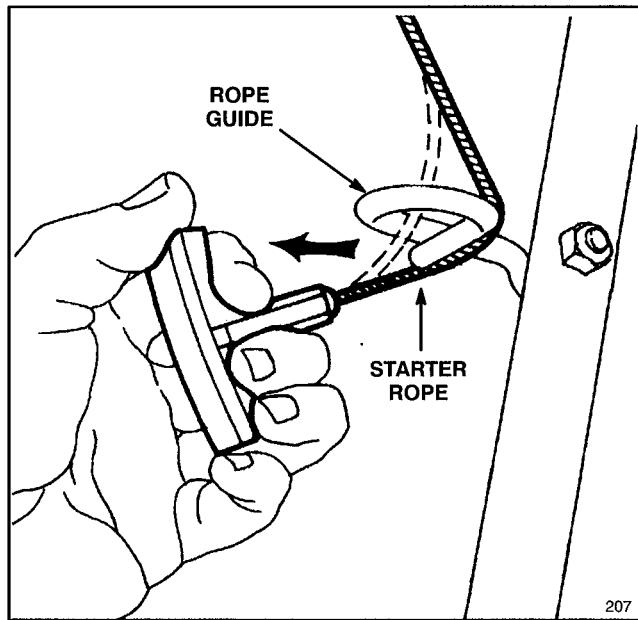
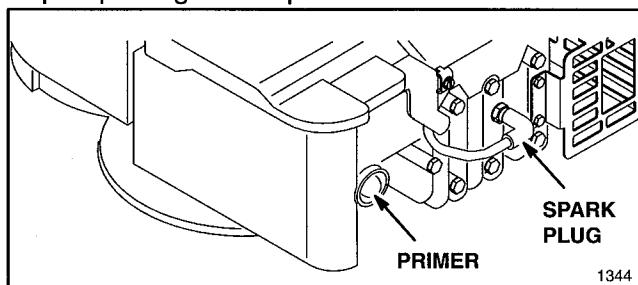

Figure 3
Figure 6
3. STARTER ROPE (Fig. 3)—Pull starter rope through opening in rope guide. By squeezing control bar (Fig. 6) against handle, blade brake will release and allow rope to be pulled easily up to rope guide.
1. Push spark plug wire onto spark plug (Fig. 6).
4. Push primer three (3) times (Fig. 6). Wait about two (2) seconds between each push.